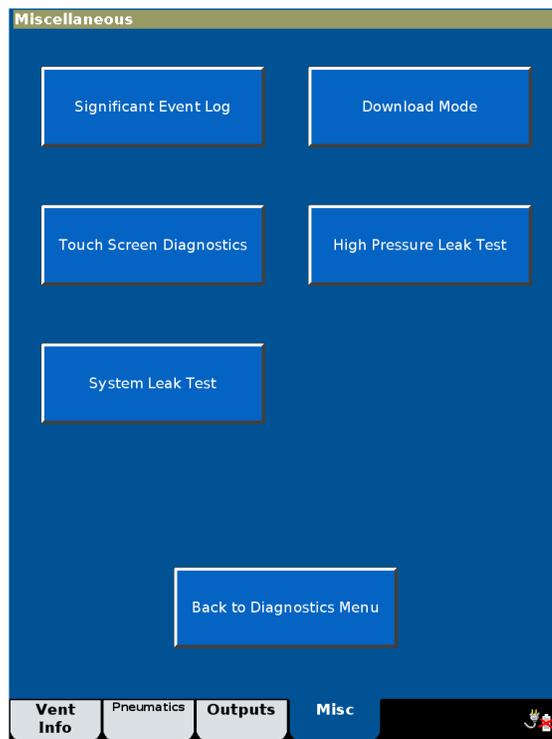

Figure E-11: Miscellaneous screen
2. The Miscellaneous screen opens (Figure E-11). Select Significant Event Log.